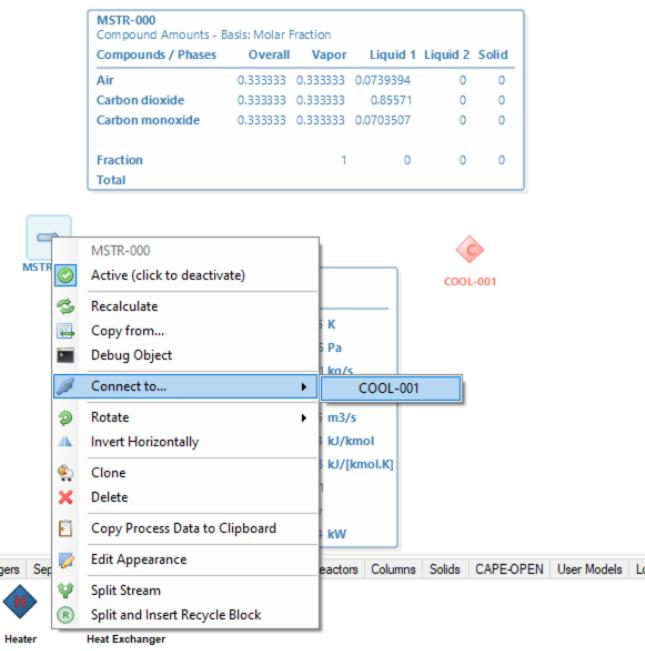

Figure 20: Selected object context menu.
- Through the context menu activated with a right mouse button click over the object (Figure 20);
**Removing objects from the flowsheet** The selected object can be removed from the flowsheet by pressing the DEL keyboard button or by using the context menu - "Delete" item (Figure 20).